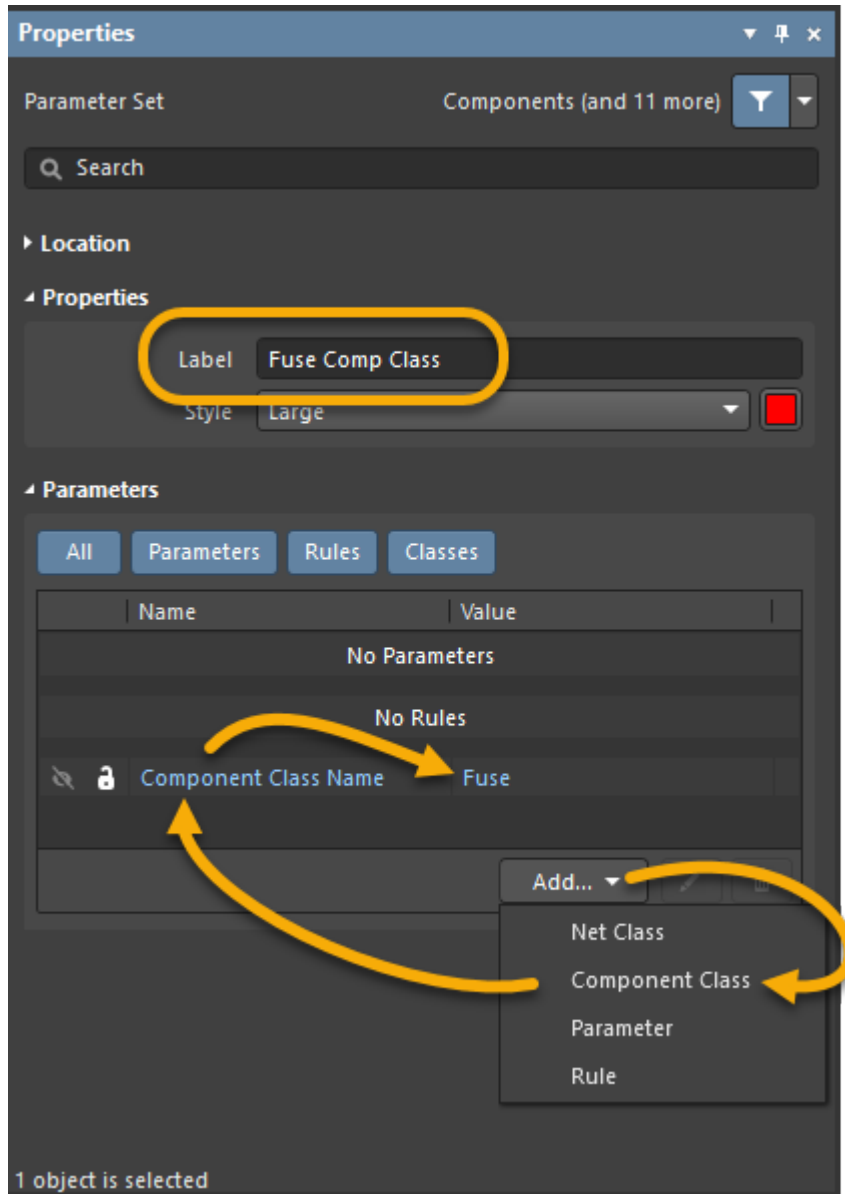

Figure 9. New Component Class based on Blanket
47. Select the menu option **Place » Parameter Set**, press **TAB** to open the *Properties* panel and add a new Component Class, as seen in Figure 9